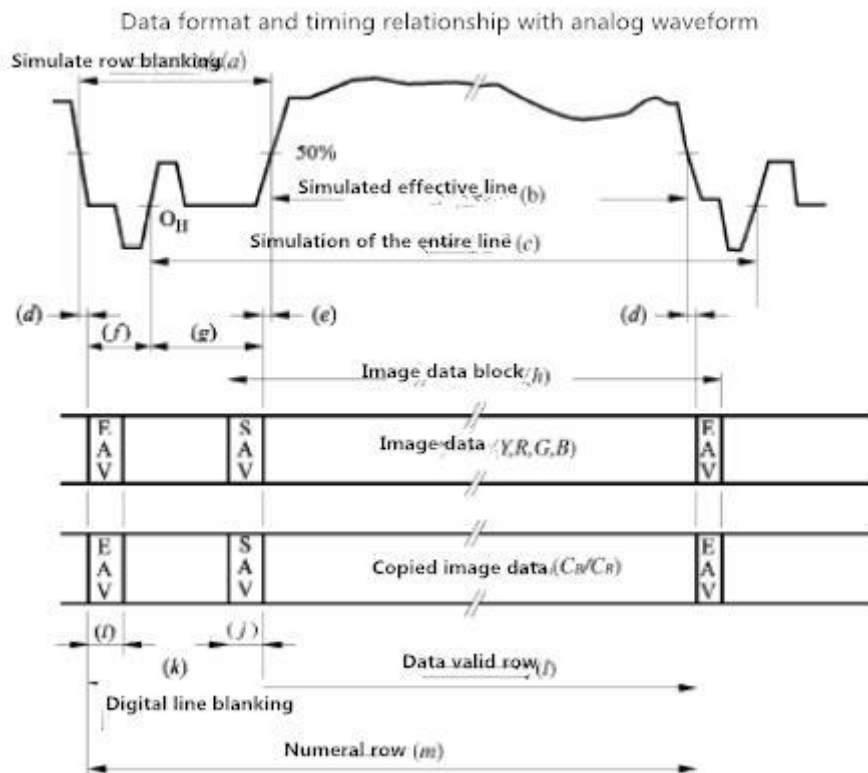

Fig.2-14 BT.1120 data format
3) Data timing: Using standard 1080P line by line Y/C separation sequence, insert the line header and footer information into the common digital data stream, with the header information as the start of active video (SAV) and the footer information as the end of active video (EAV), as shown in Fig. 2-14, Table 2-8 and Table 2-9.